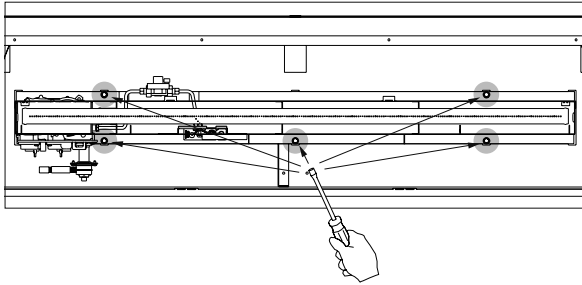

Figure 25
2. Remove burner box from fireplace. **See Figures 25 & 26.**